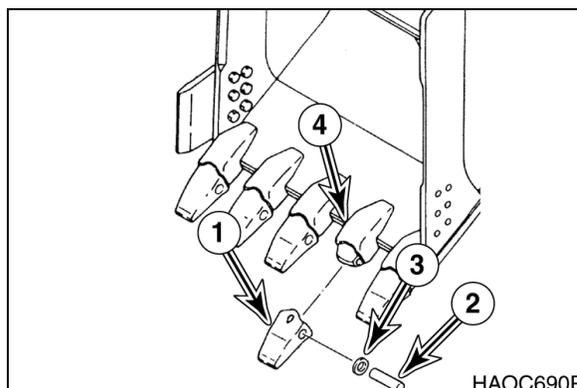

Figure 93
2. To replace a tooth (1, Figure 93), use a hammer and punch to drive locking pin (2) and lock washer (3) out of tooth adapter (4).